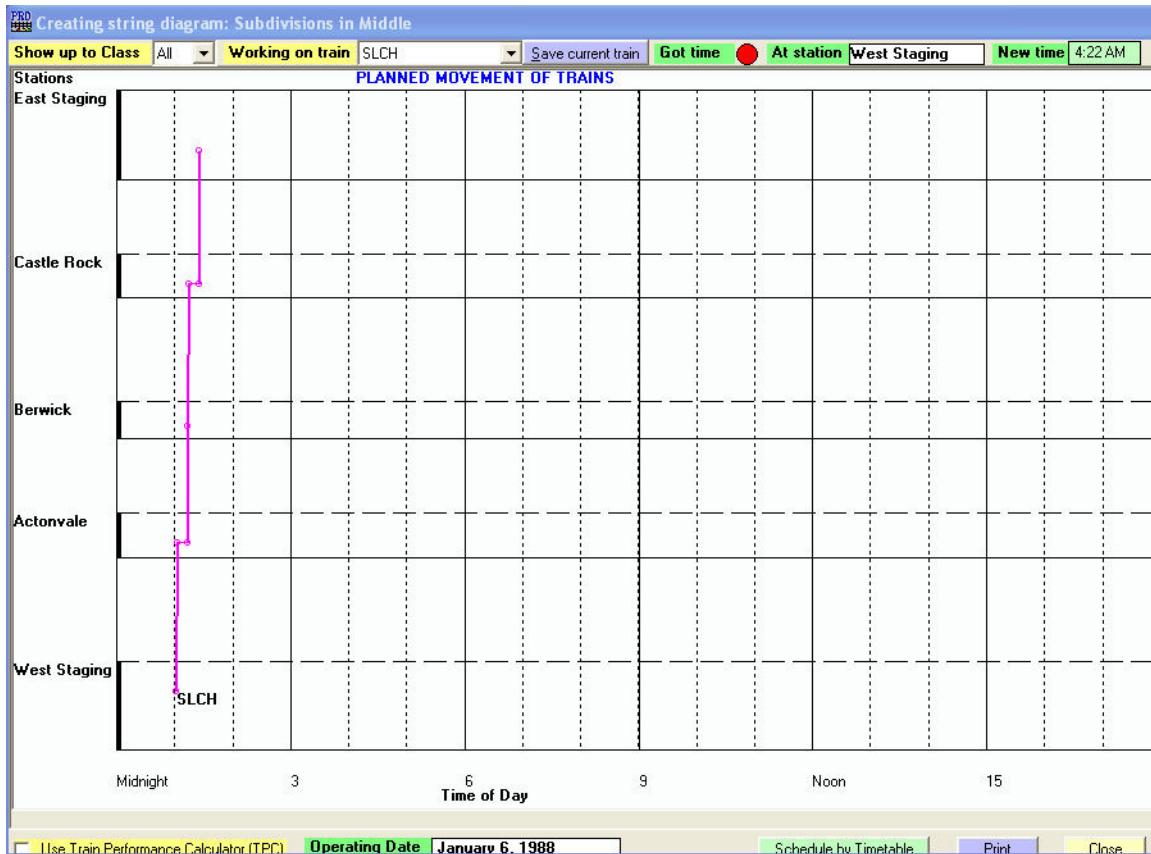

Figure 12-14
immediately draw the schedule of train SLCH on the graph in the window (see Figure 12-14). The times shown for train SLCH are those that have been calculated by ProTrak using the data we entered when we established the train, when we set up the stations and when we set up the fast clock ratio. ProTrak defaults all station stops to 10 minutes.
11. Admittedly, this doesn't look much different than Figure 12-14 but the arrival time at Actonvale has changed, as have all times that follow. We can check to see what time ProTrak now has for the departure of train SLCH from Actonvale. To do this, as we have in the past, place your mouse pointer on the 'dot' representing the departure time at Actonvale. You should see that that the "New Time" data field on the "Creating string diagram..." window's top tool bar now reads 1:12 am. If the "New Time" data field does not read 1:12 am, 'grab' the dot and drag it to the right until the "New Time" data field does read 1:12 am.